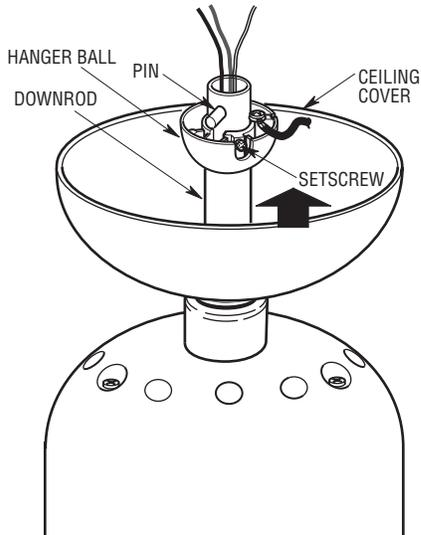

Figure 8
- 15. Reinstall the hanger ball (Figure 8) on the downrod as follows. Route the motor leads through the downrod. Position the pin through the two holes in the pin and align the ball so the pin is captured in the groove in the top of the hanger ball. Pull the hanger ball up tight against the pin and securely tighten the setscrew in the hanger ball. A loose setscrew could create fan wobble.